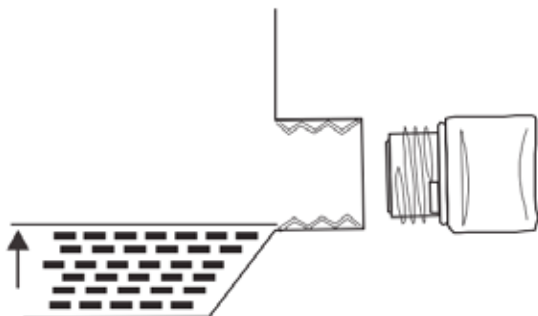

Figure 4: Engine Oil Correct Level
3. Using the supplied funnel and oil, pour the entire bottle of oil into the engine. See correct oil level in Figure 4 below.
- The engine is filled with engine oil (see Figure 4: *Engine Oil Correct Level* on page 11).